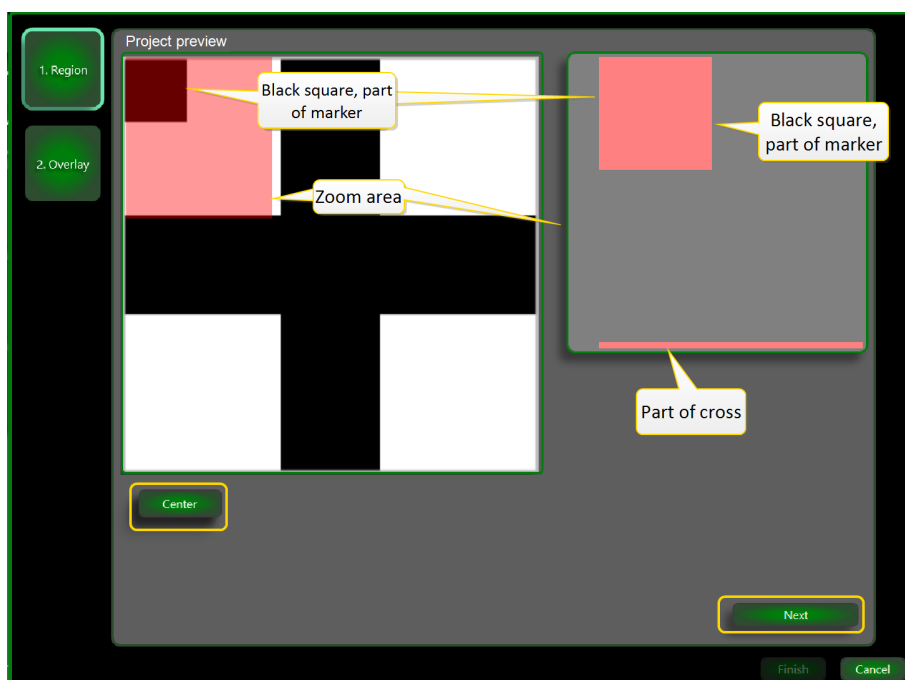
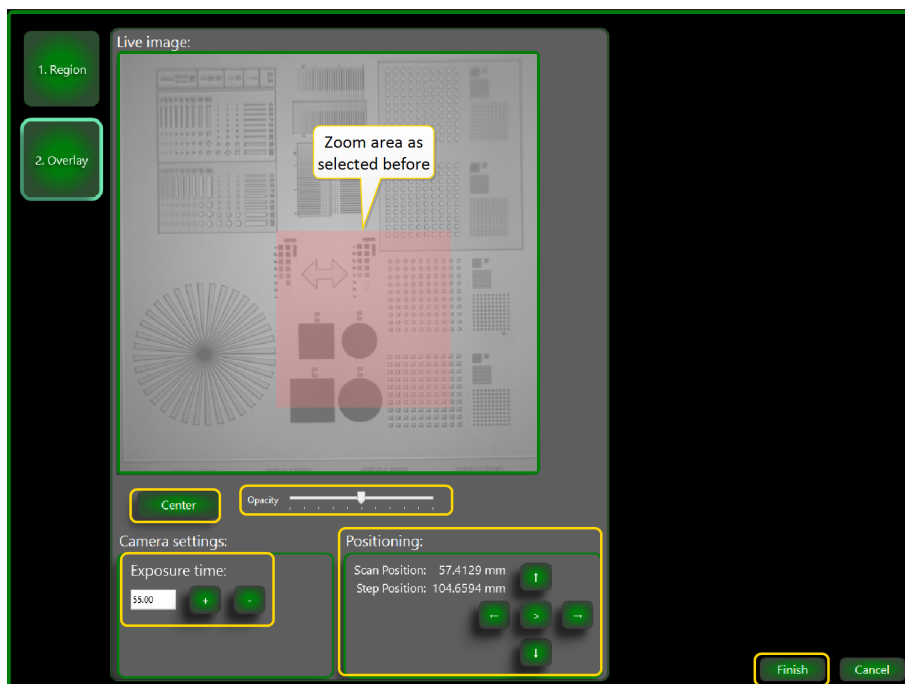

Figure 3-107 Project preview window
Figure 3-108 Project preview window
6. Press **Overlay**. The **Project preview** window becomes visible, see Figure 3-107.
The **Project preview** window shows the project image, NOT the alignment camera image. The **Project preview** window is used to select the part of the project that should be aligned to a part of the existing image on the substrate. The project shown in Figure 3-107 is actually a marker.
8. Press **Next** or press the **Overlay** button to go to the **Live image** window, see Figure 3-108.
Figure 3-108 shows the zoom area that you selected in Figure 3-107.